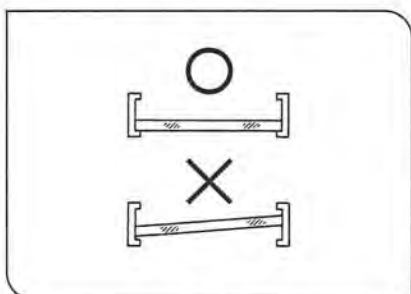

Fig. 39
- Ⓢ Wait until the filters have cooled down enough before replacing a filter. Take out the filter holder ① and insert the required filter ②.
- ★ Insert the filter so that it comes at the bottom without tilting, as shown in Fig. 39. If the filter is tilted or not inserted to the bottom, it may drop from the filter holder.